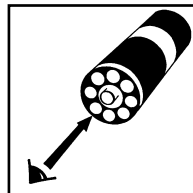

Figure 3
4. Place the CHEMet ampoule, flat end downward into the center tube of the comparator. Direct the top of the comparator up toward a source of bright light while viewing from the bottom. Rotate the comparator until the color standard below the CHEMet ampoule shows the closest match (fig 3). If the color of the CHEMet ampoule is between two color standards, a concentration estimate can be made.